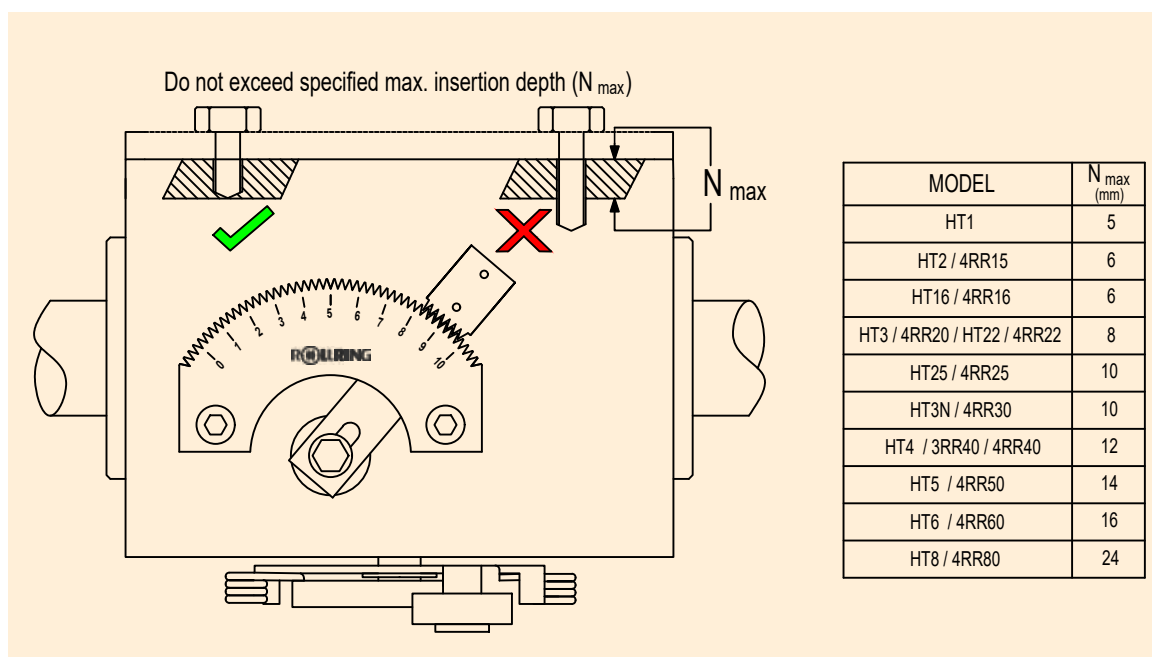

Fig . 18
**Important:** Refer to Figure 18 for the maximum insertion depth specifications applicable to different models.